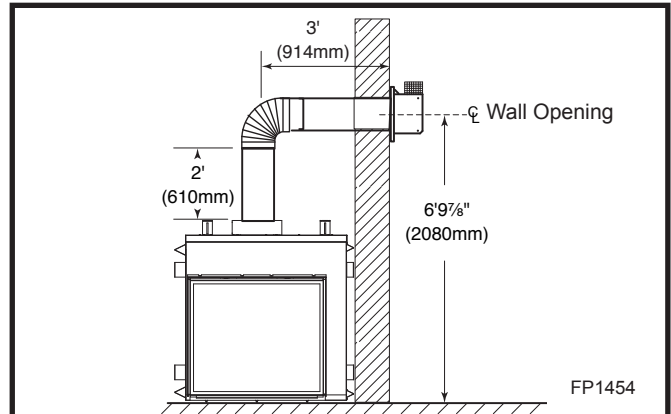

Fig. 16 Minimum vertical run / maximum horizontal run.
- The maximum number of 90° elbows per side wall installation is three (3), but must not have two (2) consecutive elbows in the horizontal plane.
- A minimum of 2' (610mm) vertical section off the top of the unit is required, an elbow and a 1' (305mm) maximum horizontal run to get through a wall. (Fig. 16)
- The maximum number of 45° elbows permitted per side wall installation is two (2). These elbows can be installed in either the vertical or horizontal run. (Fig. 16)